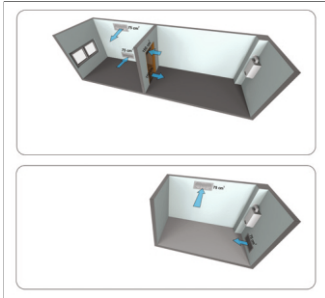

Figure 1.3.1
- This device is C3 class with the fan and a hermetic device. This device can also be used in B3 (the only waste gas is compressed) state. For this, the environment should be vented according to Figure 1.3.1. For each 1 kW capacity, total environment size should be 1 m³. Appropriate vents for air intake must be placed.